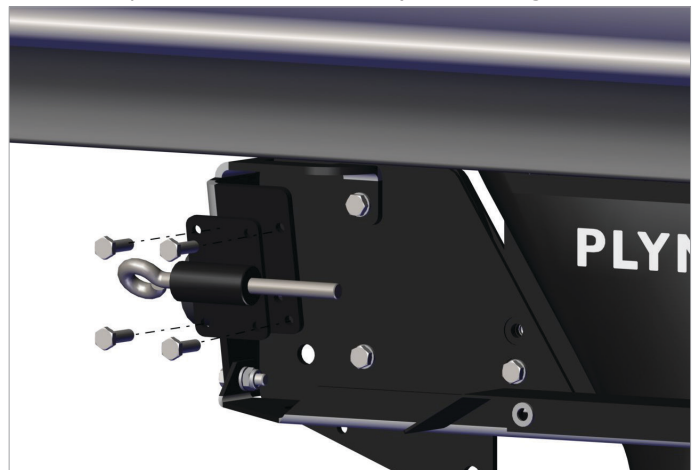

Fig. 5.3.3 Mounting the rope brackets on the crab
- Mount the rope brackets to the crab. (in the case of an existing system with an older crab, make sure to predrill holes in the crab!). Refer to fig. 5.3.3